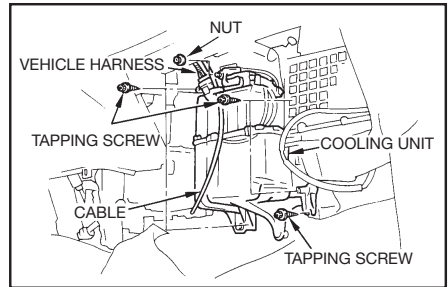

Fig. 2
1. Remove the cooling unit following the vehicle manufacturer's recommended procedures (See Fig. 2).